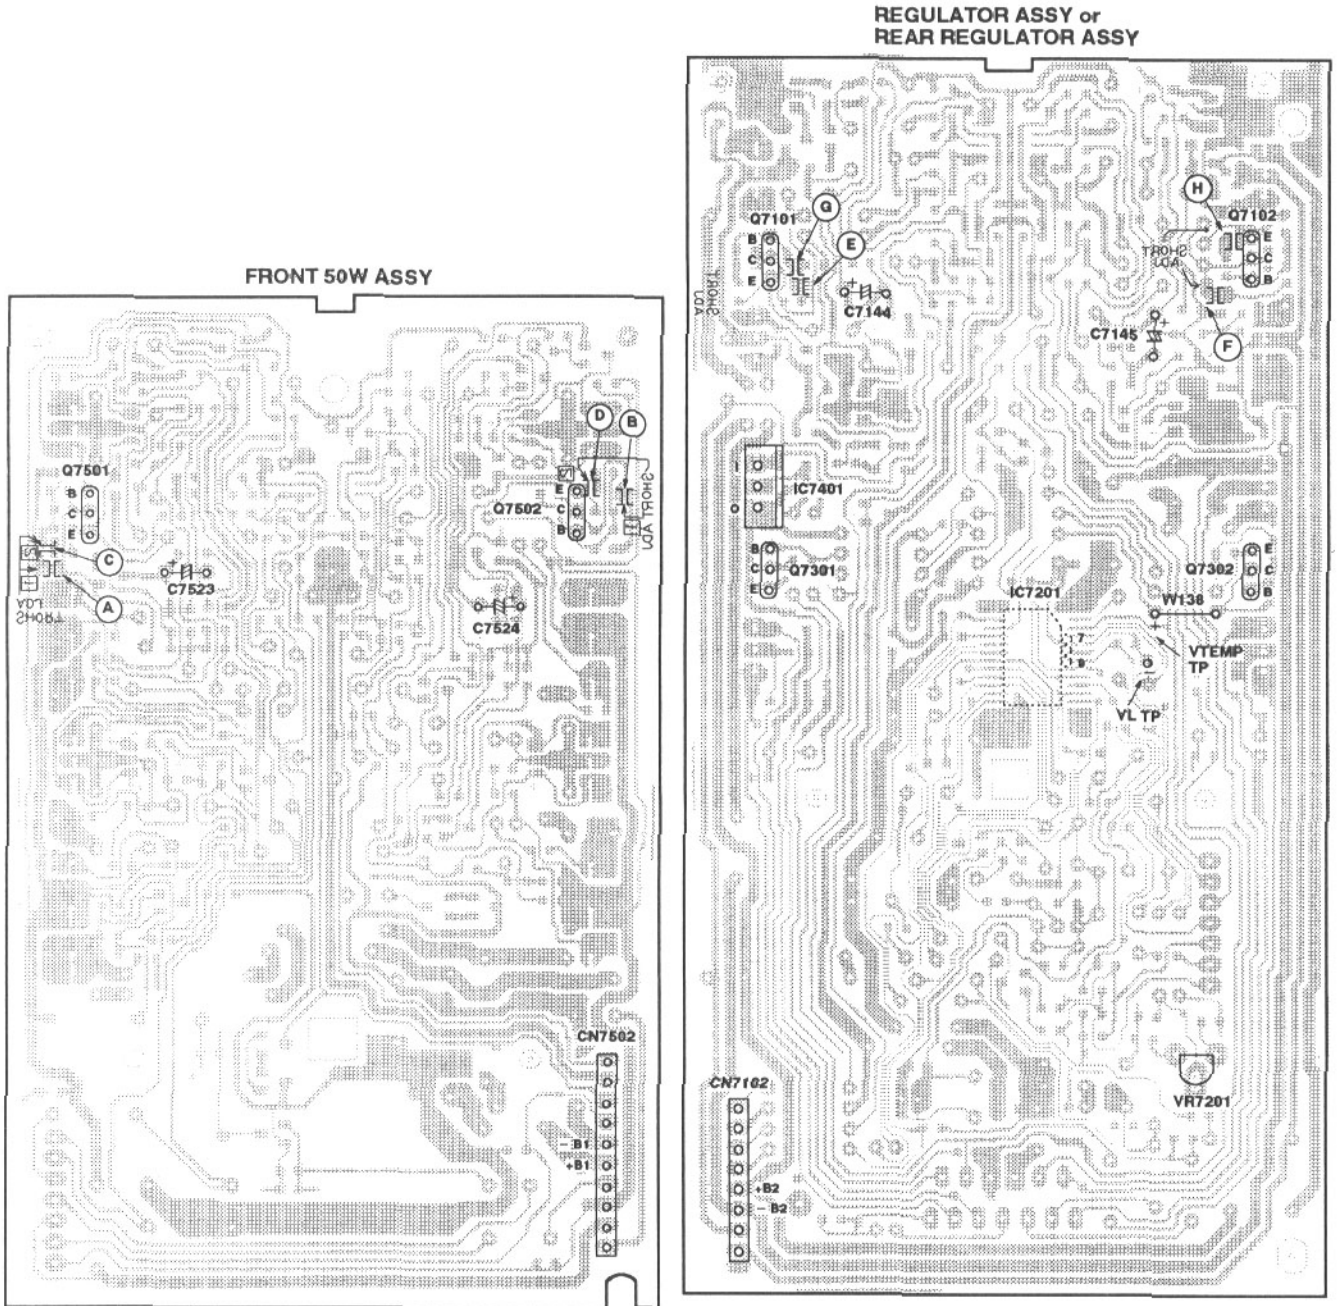

Fig. 7-6 Adjustment point
| 1 | L ch side | Short both sides of C7144 and C7145 on the Rear Amp. side. (Refer to Fig. 7-6) | Do not operate the Rear Amp. side. |
| 8 | L ch side | Short between the Point ㉔ pattern in Fig. 7-6 using solder. | Connect R7517 to R7515 in a parallel circuit. |
| 9 | R ch side | Short between the Point ㉕ pattern in Fig. 7-6 using solder. | Connect R7518 to R7516 in a parallel circuit. |
| 12 | L ch side | Short between the point ㉖ pattern in Fig. 7-6 using solder. | Connect R7551 to R7519 in a parallel circuit. |
| 13 | R ch side | Short between the point ㉗ pattern in Fig. 7-6 using solder. | Connect R7552 to R7520 in a parallel circuit. |
| 1 | | Short both sides of C7523 and C7524 on the Front Amp. side. (Refer to Fig. 7-6) | Do not operate the Front Amp. side. |
| 8 | Center amp. side | Short between the Point ㊸ pattern in Fig. 7-6 using solder. | Connect R7117 to R7115 in a parallel circuit. |
| 9 | Surround amp. side | Short between the Point ㊹ pattern in Fig. 7-6 using solder. | Connect R7118 to R7116 in a parallel circuit. |
| 12 | Center amp. side | Short between the point ㊺ pattern in Fig. 7-6 using solder. | Connect R7151 to R7119 in a parallel circuit. |
| 13 | Surround amp. side | Short between the point ㊻ pattern in Fig. 7-6 using solder. | Connect R7152 to R7120 in a parallel circuit. |
1. Connect a voltmeter between VTEMP and VL (or between IC7201 terminals No. 9 and 7). (Refer to Fig. 7-6 and 7.)